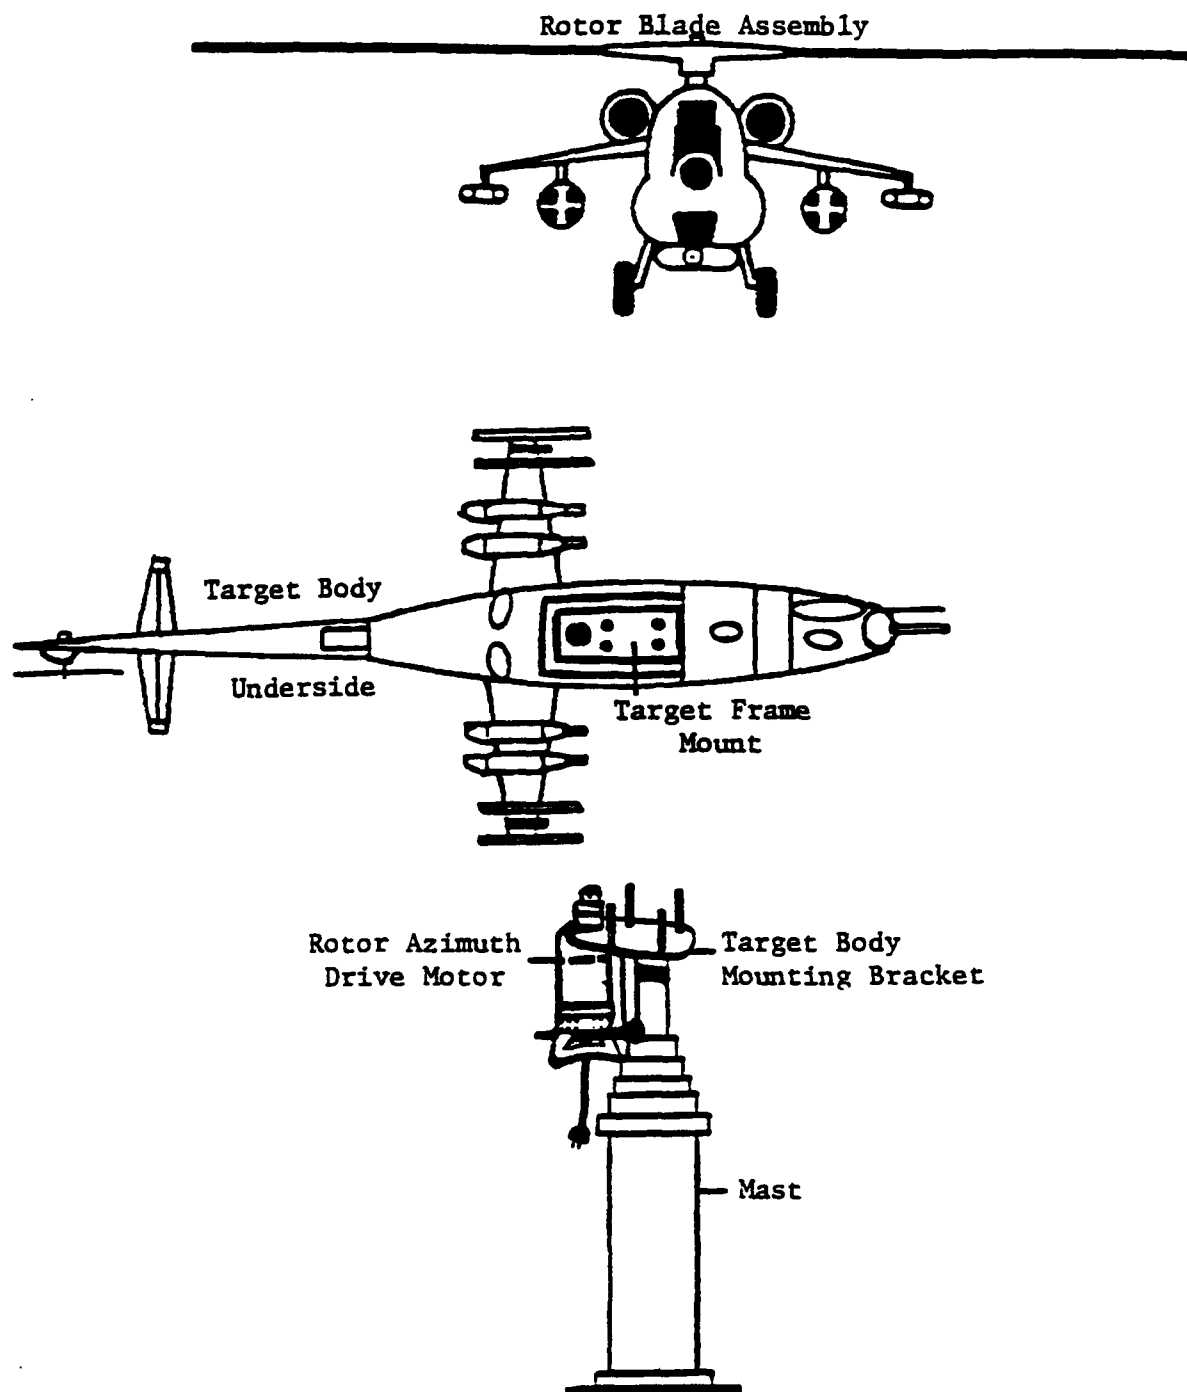

Figure 2.2.3-1. Helicopter mounting.
2. Place the proper main rotor drive assembly with drivee motor mount in the mounting area on the helicopter body. Align the four mounting bolts with the helicopter body. Attach washers and nuts and tighten. Refer to Figure 2.2.3-1, and Appendix A, Mast Assembly.
3. Lift the helicopter body over the mast and bolt it to the mounting bracket attached to the mast. Insert the rotor blade into the azimuth drive motor and tighten down rotor shaft using the chuck key. Refer to Figure 2.2.3-1; more detail on the assemblies can be found in Appendix A.